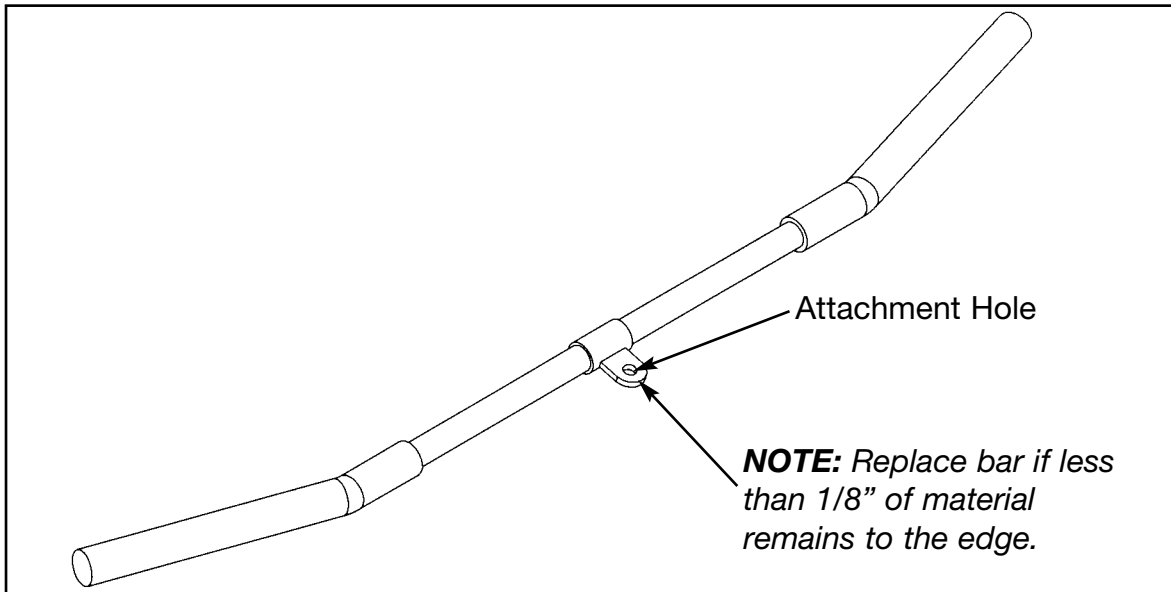

Figure 5
***! CAUTION: Replace all worn handles immediately. Do not use if less than 1/8" of material remains to the edge. See Figure 5.***